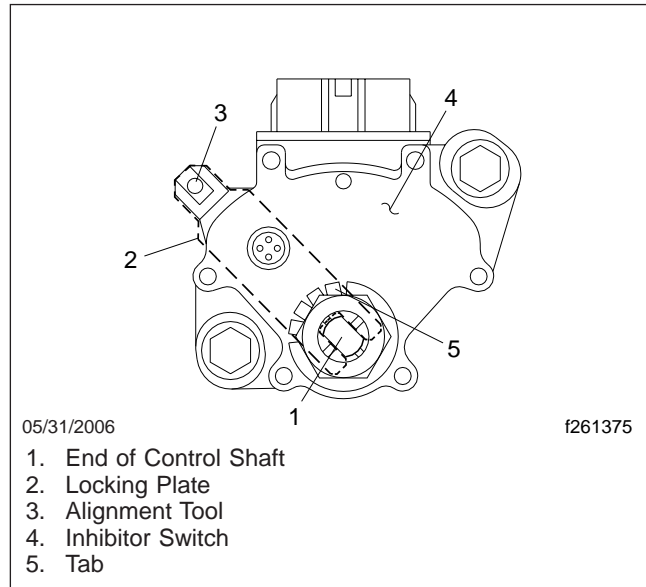

Fig. 15, Setting the Inhibitor Switch
12. Install the shift selector cable on the control lever. Lubricate the bushing with a small amount of wheel bearing grease (any grease meeting NLGI No. 2). Using the inhibitor switch alignment tool, lock the control cable. See Fig. 15.